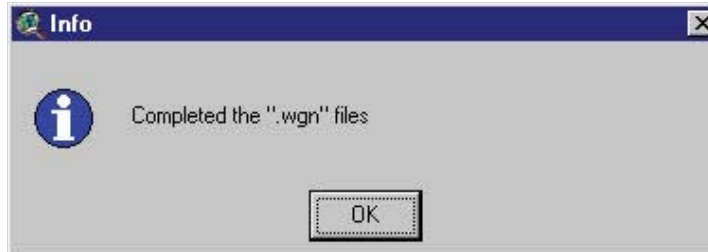

Figure 8.16
- c. From the **Input** menu, select **Write Weather Generator Data (.wgn)** (or press `Ctrl+E`). This selection generates the subbasin weather generator data (see *Soil and Water Assessment Tool User's Manual, Version 2000*, Chapter 13). When the data files have been written, a message box will pop up (Figure 8.16).